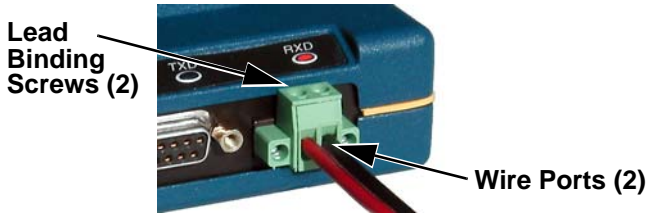

Figure 14. Power Connector
- Measure and install the primary power for the transceiver. It must be within 6–30 Vdc (including transients) and be capable of providing 7.5 watts over this voltage range. (Typical current draw is 400 mA @ 13.8 Vdc; 0.9 A @ 6 Vdc.) A power connector with screw-terminals is provided with each unit. Strip the wire leads to 0.25"/6 mm. Be sure to observe proper polarity. The left pin is the positive input; the right is negative. (See Figure 14.)
Only the power connector, shown in Figure 14 with screw terminals and two retainer screws should be used with this unit.